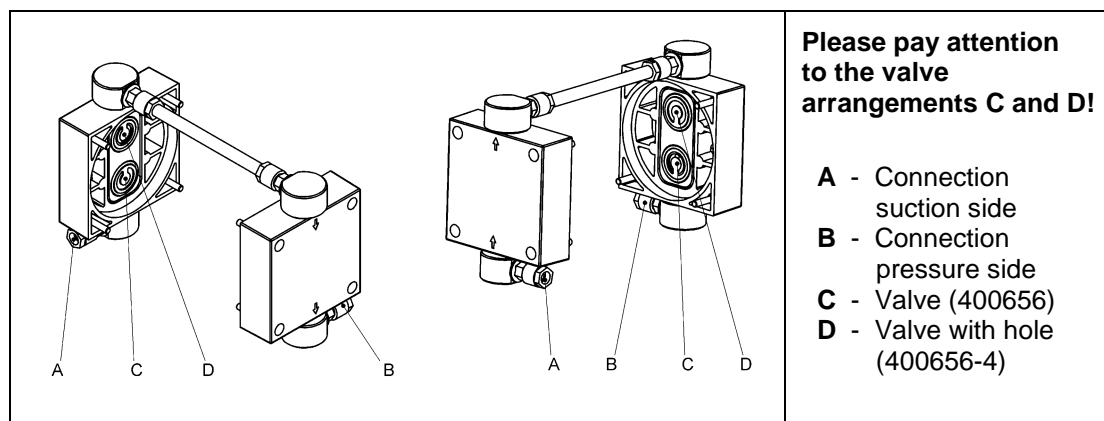

Fig. 7b Valve arrangement
4. Replace the pump head (6). (Observe the fixing bore on the edge!)
5. Insert the valves (3; 4) (see C and D fig. 7b) and the o-rings (5). Ensure that they are lying completely flat. Do not insert the burred side facing the sealing surface. Align the connection head with pin flush to the fixing bore at pump head.
6. Tighten the four cylinder screws (1) symmetrically with a torque of 3 to 4 Nm.
7. Reattach the hose connections (11) with fittings (10).